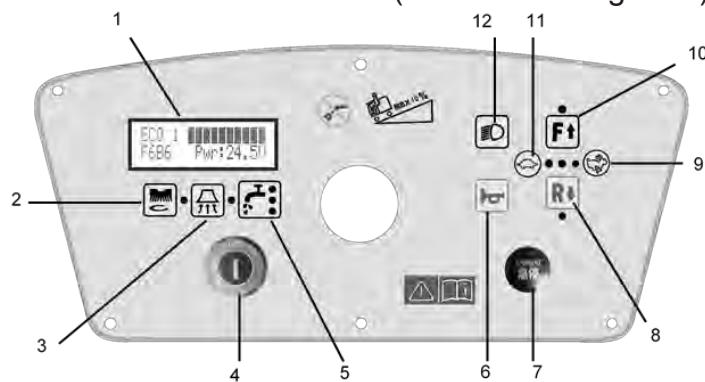

Figure 2
CONTROL PANEL FUNCTION DESCRIPTION (as shown in Figure 2)
If there is an emergency while operating the machine, press the emergency button (7, Figure 2). All machine functions will stop and nothing will display on the control panel. Push the emergency switch to restore the power supply.
1. Insert the key into the key switch (4, Figure 2) and turn to the "On" position.
2. Press the "Vacuum system button" (3, Figure 2), and the squeegee assembly support frame will be automatically lowered to the ground.
2. Push the "Brush system button" (2, Figure 2) and "Vacuum system button" (3, Figure 2). When the indicator light is on, the squeegee assembly and the brush deck will be automatically released to the ground. The brush motor and vacuum motor will start running.
3. According to the cleaning needs, the solution water volume can be adjusted through the "Solution volume adjusting button" on the control panel (5, Figure 2). Three volume levels can be adjusted and are indicated by the water quantity indicator light. The maximum amount of water is indicated when the indicator light is fully on. Visually check the water level indicator beside the solution tank (13, Figure 1). When the floating ball reaches the bottom, the water in the water tank is approaching, or is, empty. Please fill the water accordingly.
4. The machine drive speed can be adjusted through the "Speed increase/Speed reduce buttons" (11/9, Figure 2) on the panel. Press the "Tortoise" button to slow down, and press the "Rabbit" button to accelerate. There are three speed regulation options. As the accelerator pedal is pressed, the faster it goes. Push the accelerator pedal slowly, take the steering wheel forward, and start cleaning.
5. To reverse the machine, press the "R button" (8, Figure 2). When the machine reverses, the squeegee assembly and brush disc automatically lift and the cleaning function will automatically stop.
6. In case of sudden crowd or crowded situation press the "Horn button" (6, Figure 2) and the machine will issue a "beep" sound.
7. In low-light situations, press the "Front light button" (12, Figure 2) to turn the LED lamp on.
8. If you need to stop the machine immediately in an emergency, press the "Emergency stop button" (7, Figure 2).